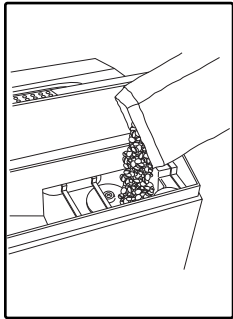

Fig. 5
10. Bean Container/fineness selector (See Fig. 5 and 6)